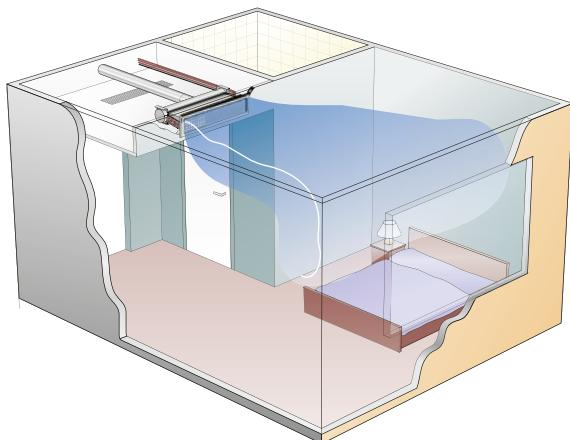

Figure 3. Ceiling-mounted Primo in hotel rooms.
- Ceiling-mounted Primo for indoor climate solutions in hotels, for example (Figure 3).